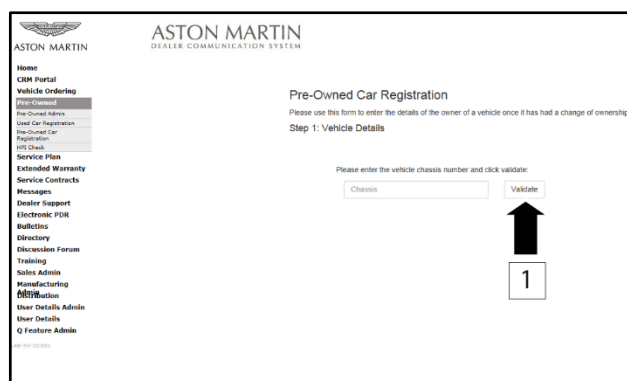

Figure 1
1. Enter the vehicle's 6-digit chassis number into DCS (amdealers.com) and click "Validate" (refer to Figure 1).